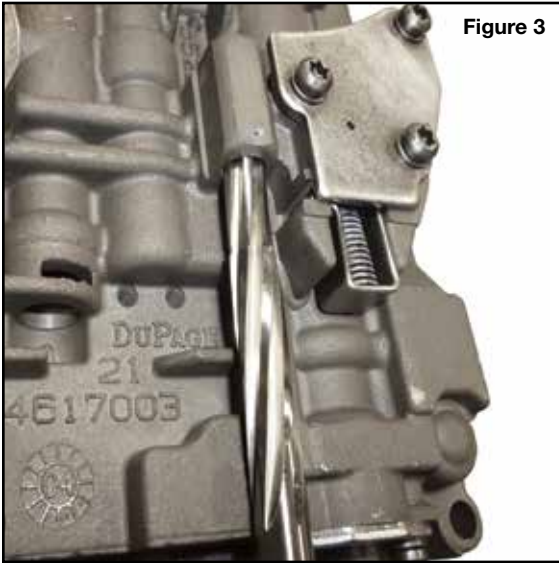

Figure 3
- Insert the pilot on the self-guiding reamer into the retaining pin end of the detent bore until the cutting chamfer contacts the face of the bore (**Figure 3**).